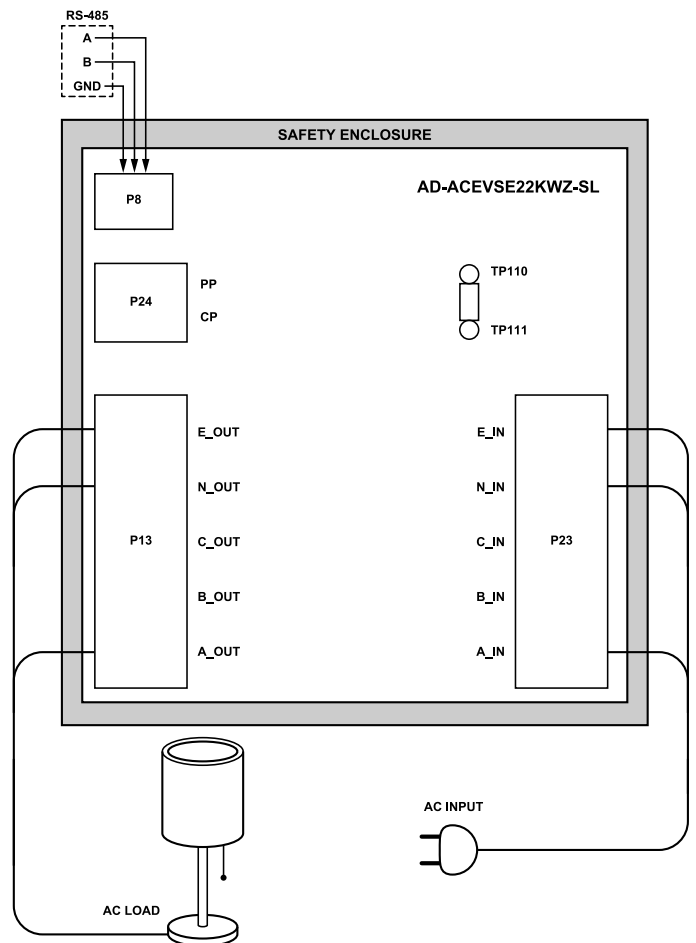

Figure 3. RS-485 Test Setup
2. Connect a single-phase input to the power, neutral, and ground ports of P23 (A, N, and E, respectively), as shown in Figure 3. A single-phase wall outlet is suitable.